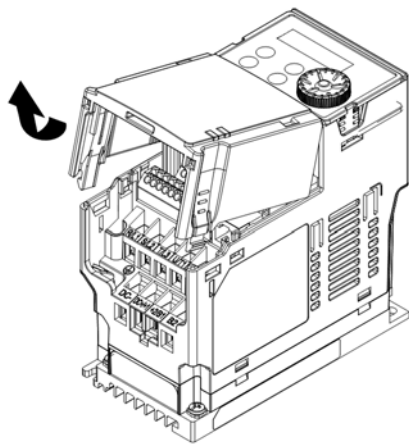

Figure 8-21
1. As shown in the Figure 8-21, shut down the power of the motor drive, and then remove the front cover.